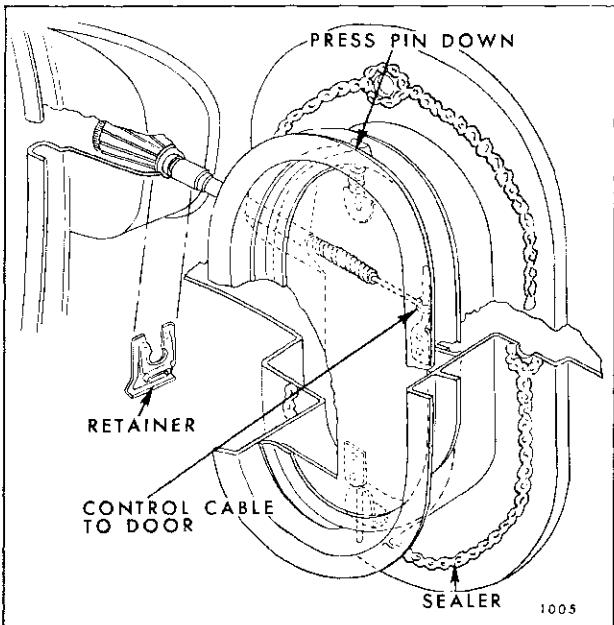

Fig. 5-6—Shroud Side Finishing Panel and Air Outlet —
5. To install, apply a generous bead of medium-bodied sealer to flange of finishing panel and duct assembly (Fig. 5-6) and reverse removal procedure.
2. Disconnect control cable from door (Fig. 5-6).
3. Depress upper pivot pin (Fig. 5-6) and remove door assembly.
3. Remove retaining clip securing control assembly to finishing panel (Fig. 5-6) and remove control assembly.